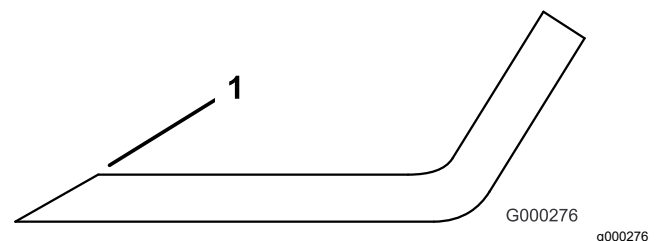

Figure 100
3. Examine the cutting edges of all of the blades and sharpen the cutting edges if they are dull or nicked (Figure 100).
Note: Sharpen only the top of the cutting edge and maintain the original cutting angle to ensure sharpness (Figure 100). The blade remains balanced if the same amount of metal is removed from both cutting edges.